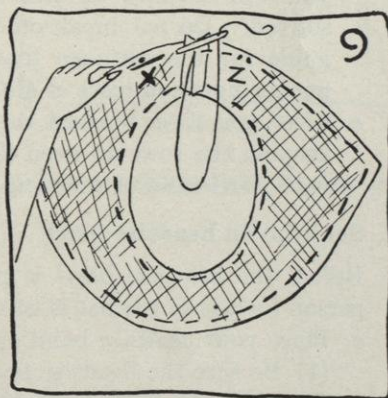

FIG. 9.
- l. Finish basting at outer edge of pattern, basting right across the two opened seams, which should lie on top of each other (see points X to Z in Figure 9).
If you use a pattern which extends beyond the edge of a brim, you may make a loose flange by following Sections 1 through 4 (pages 213 through 217). Should you want the flange stitched with even rows of stitching, follow Sections 1 through 6 (pages 213 through 218). In both cases finish the inner edge of the flange, as shown in Sections 6 d, e, f, or g of Job 34 (pages 139 and 140). Be sure to refer to Figure 9 A, B, and C of that job, page 139.